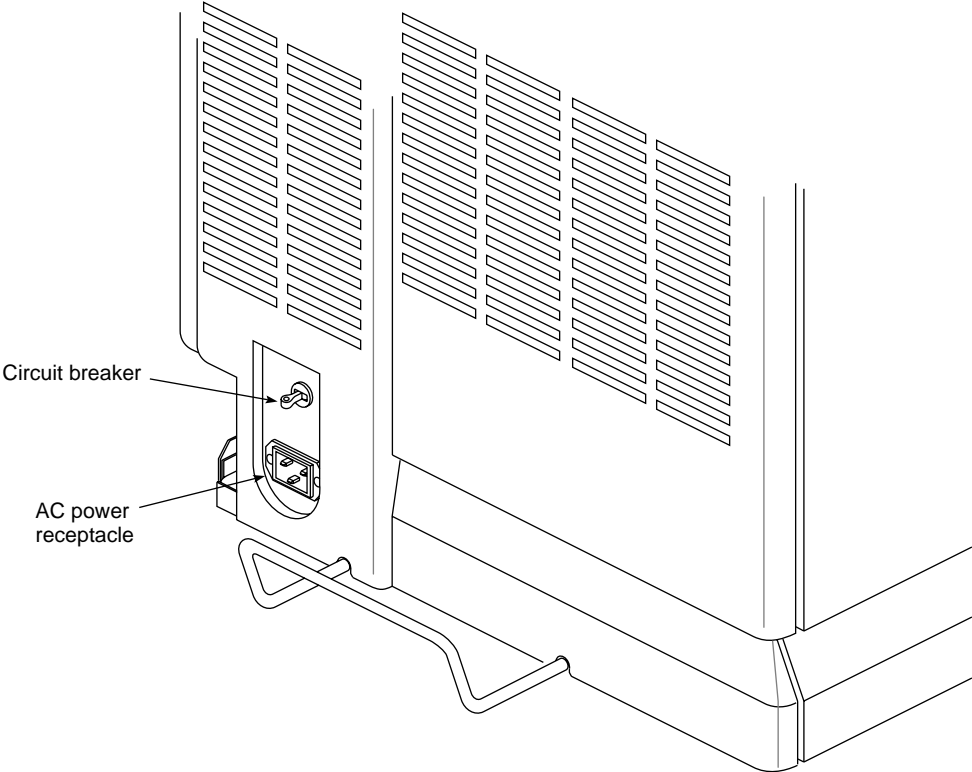

Figure 2-13 Power Receptacle and Circuit Breaker on Rear Panel
AC voltage feeds into a power receptacle and circuit breaker assembly located on the lower left rear panel of the Onyx desktside workstation. The circuit breaker switch controls the main power supply to the chassis and provides alternating current (AC) circuit protection. The power receptacle and circuit breaker are shown in Figure 2-13.